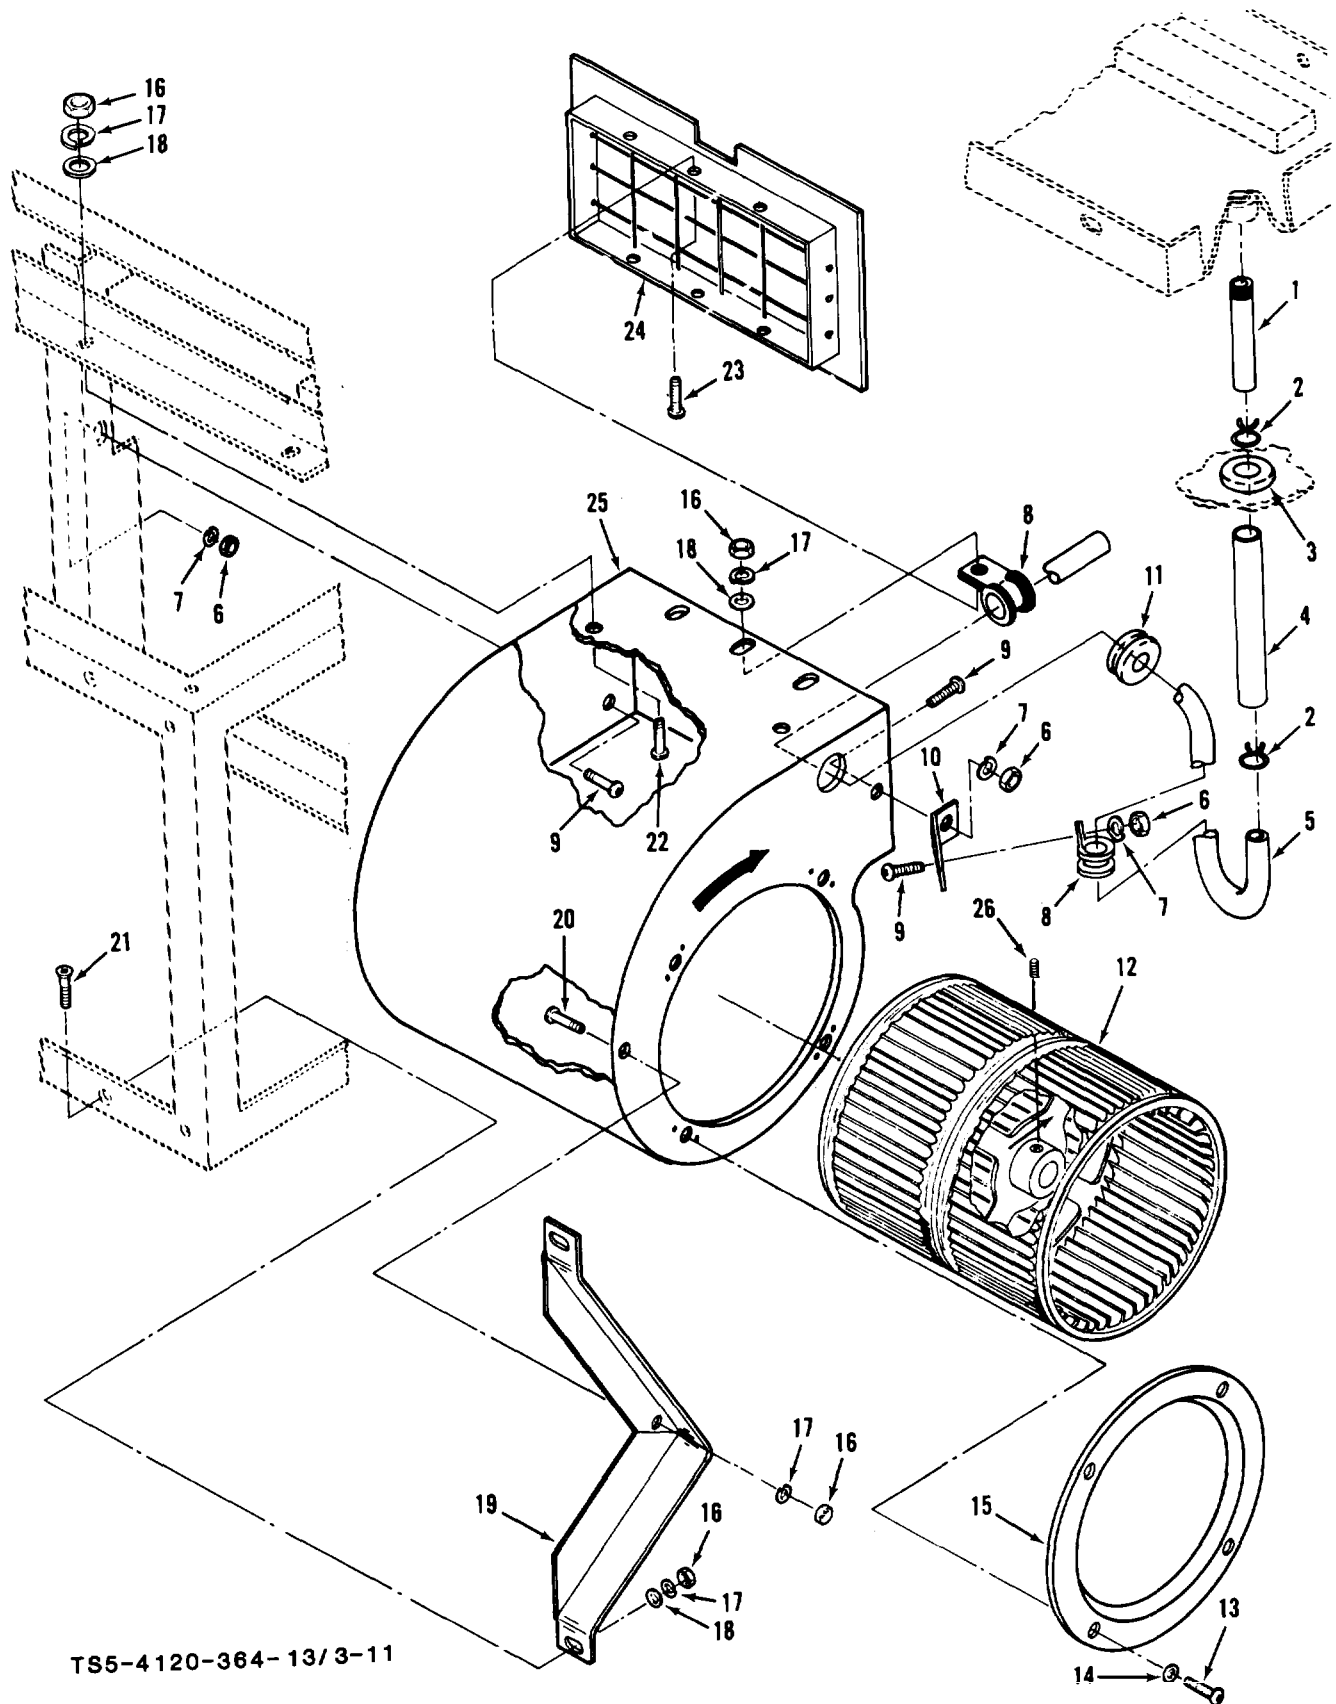

Figure 3-11. Condenser fan section, fan housing and fans
(c) Remove screws (13, figure 3-11), washers (14) and ring (15) from housings (25).
KEY TO FIGURE 3-11
(c) Disconnect pipe (5, figure 3-11) from hose (4) by releasing clamp (2). Do this on both housings (25).
(c) Place fan housings (25, figure 3-11) over rotor shaft on each side of rotor and secure with screws (9, 20, 22), washers (7, 17, 18) and nuts (6, 16).
(g) Attach rings (15, figure 3-11) to housings (25) with screws (13) and washers (14).